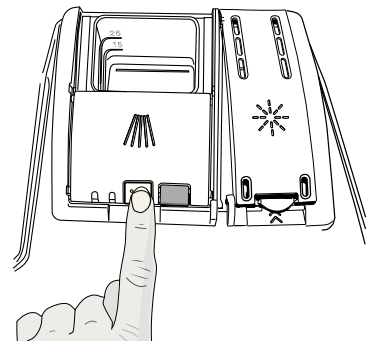

Figure 4
- To open the cover, push the button as shown in **Figure 4**.